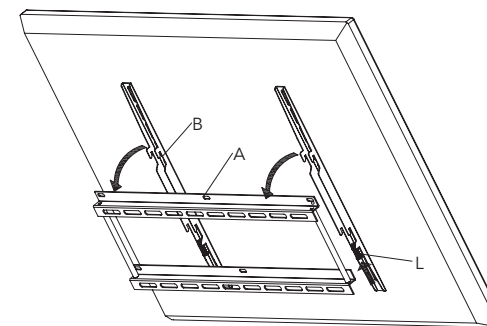

fig. 4
Attach the monitor brackets (B)'s hook to the wall plate (A)'s cross bar, then tighten screws (L, supplied attached to monitor bracket B) to secure the monitor brackets with the wall plate, to prevent the pivot arm assembly falling off the wall plate, (as shown in fig. 4).